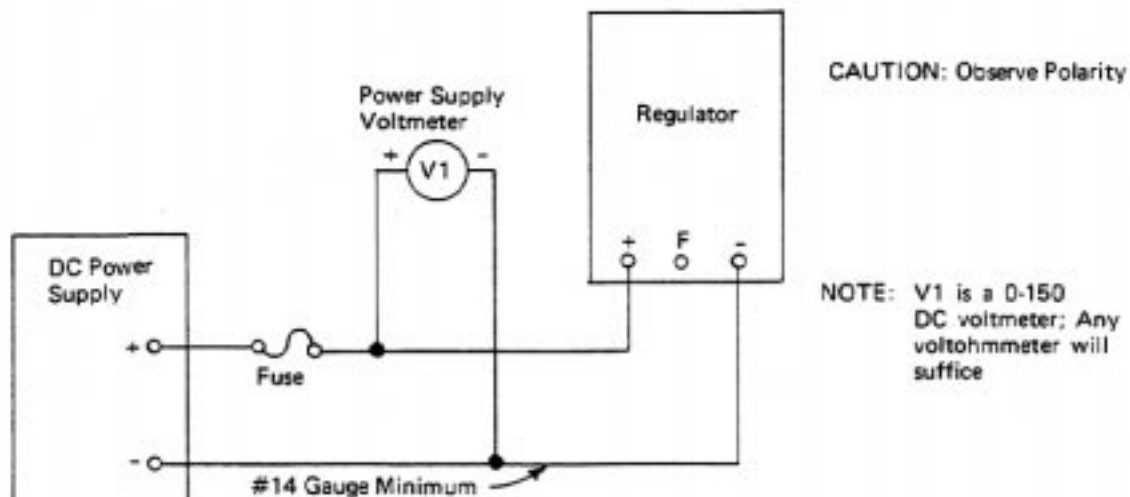

Fig. 24 - Regulator Test Circuit
29. Connect positive and negative leads of power supply to regulator, as shown in Fig. 24.